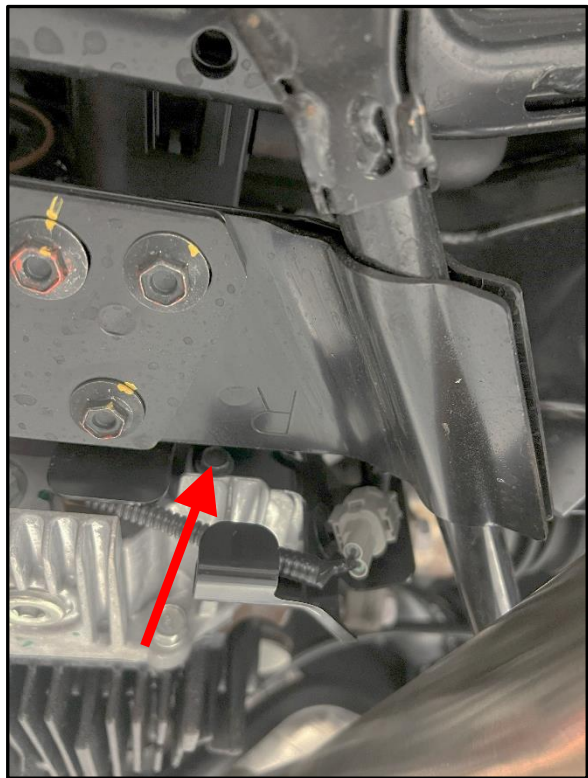

Figure 2
4. Disconnect the Wiring Harness connected to the bracket on the bottom right of the Differential Cover and remove the bolt securing the bracket to the Differential. *Figure 2.*